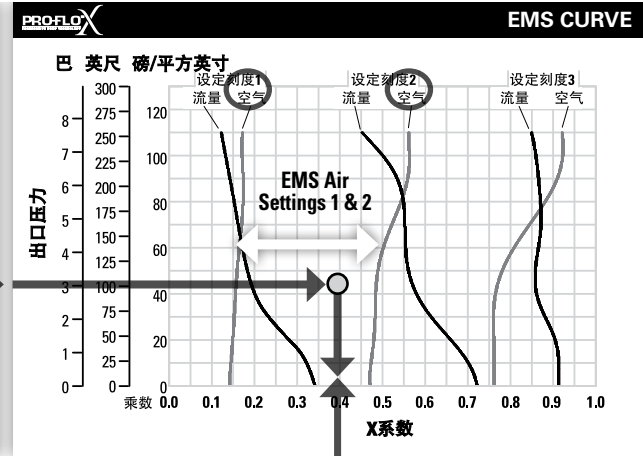

Figure 7
Step 1: Determine air X Factor. In order to determine the air X Factor, identify the two air EMS setting curves closest to the EMS setting established in example 2.1 (in this case, the point lies between the air curves for EMS setting 1 and 2). The point representing your EMS setting (1.8) must be approximated and plotted on the EMS curve along the horizontal line representing your discharge pressure (in this case, 40 psig). This air point is different than the flow point plotted in example 2.1. After estimating (or interpolating) this point on the curve, draw a vertical line downward until reaching the bottom scale on the chart and identify the air X Factor (Figure 7).